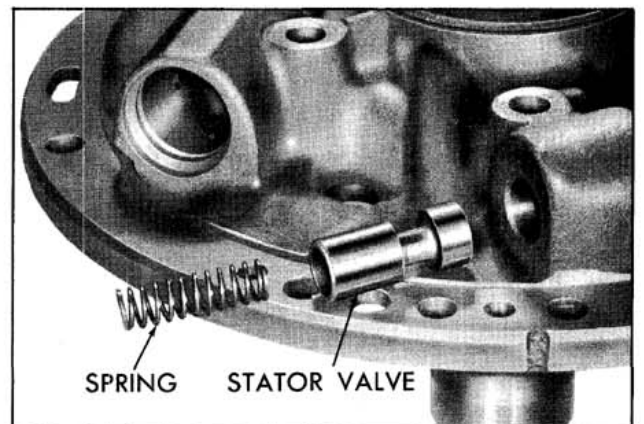

Fig. 6-118 Installing Valve and Spring
7. Install stator valve and spring into bore of pump, then install retaining pin. (Figs. 6-118 and 6-119)